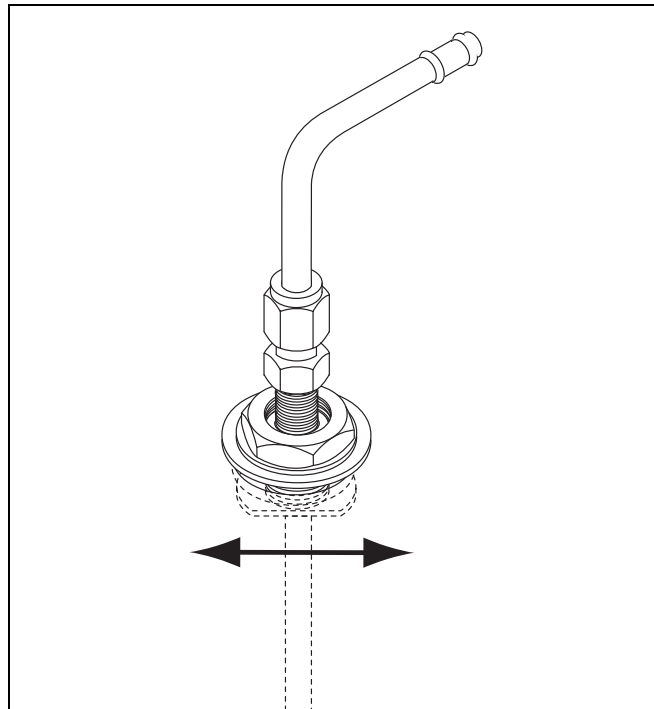

Figure 20: Standpipe installation - illustration 3
8. center standpipe in tank hole. See Figure 20.